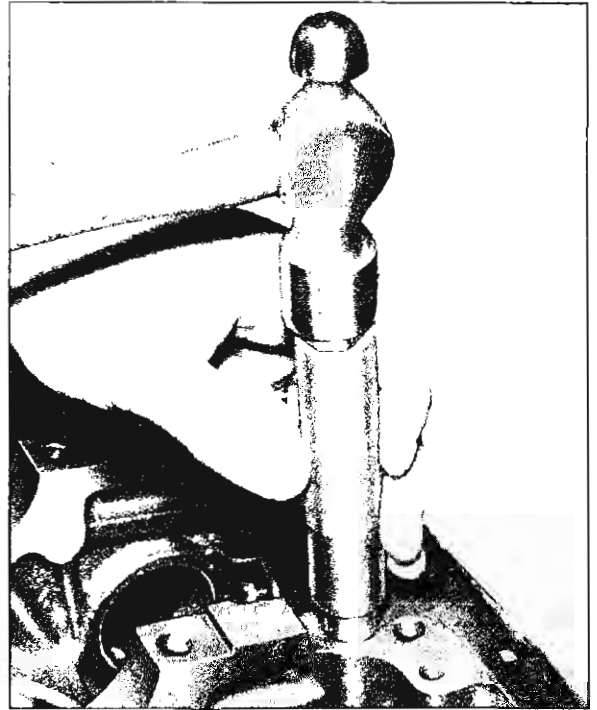

Fig. 71—Installing Distributor Lower Bushing
6. Position bushing and driver to block and drive the bushing in position (fig. 71), which is determined by tool bottoming against the block.